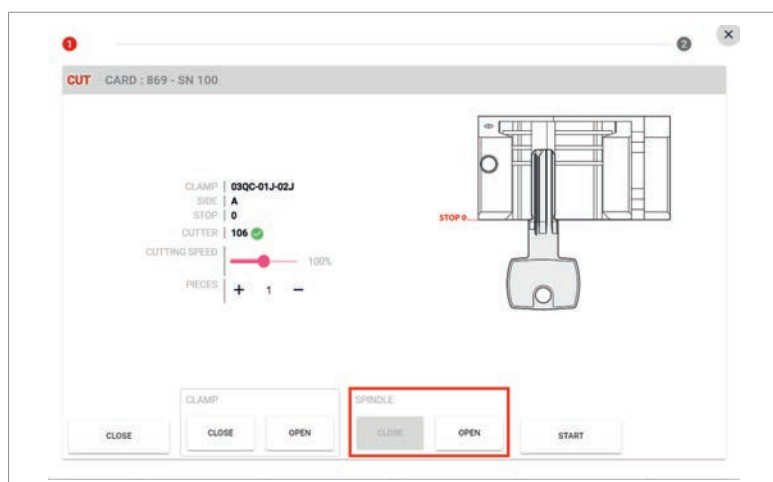

Fig. 53
- 1) Select "OPEN SPINDLE" (Fig. 53)